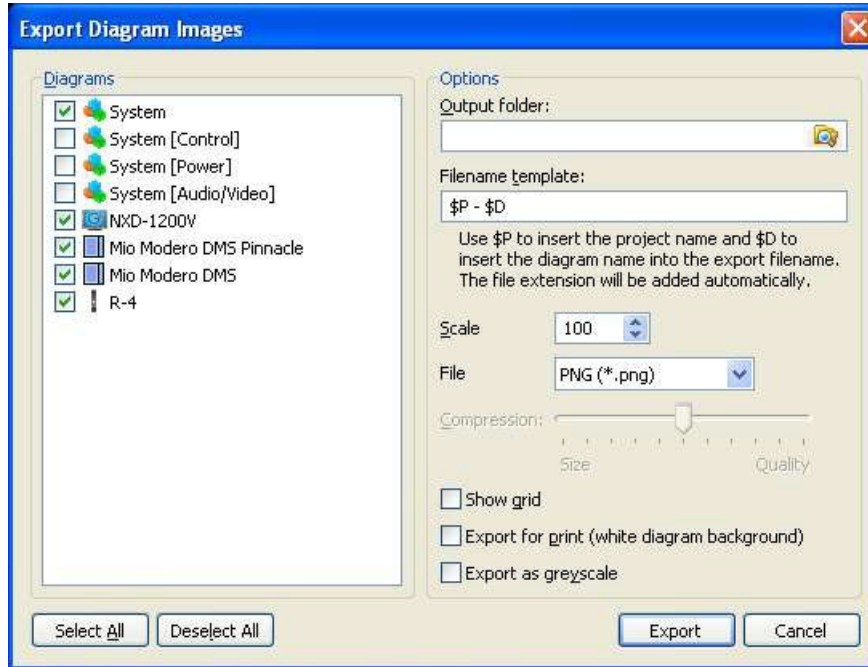

FIG. 275 Export Diagram Images dialog
1. Select **System > Export Diagram Images** (or click the Toolbar button) to open the *Export Diagram Images* dialog (FIG. 275).